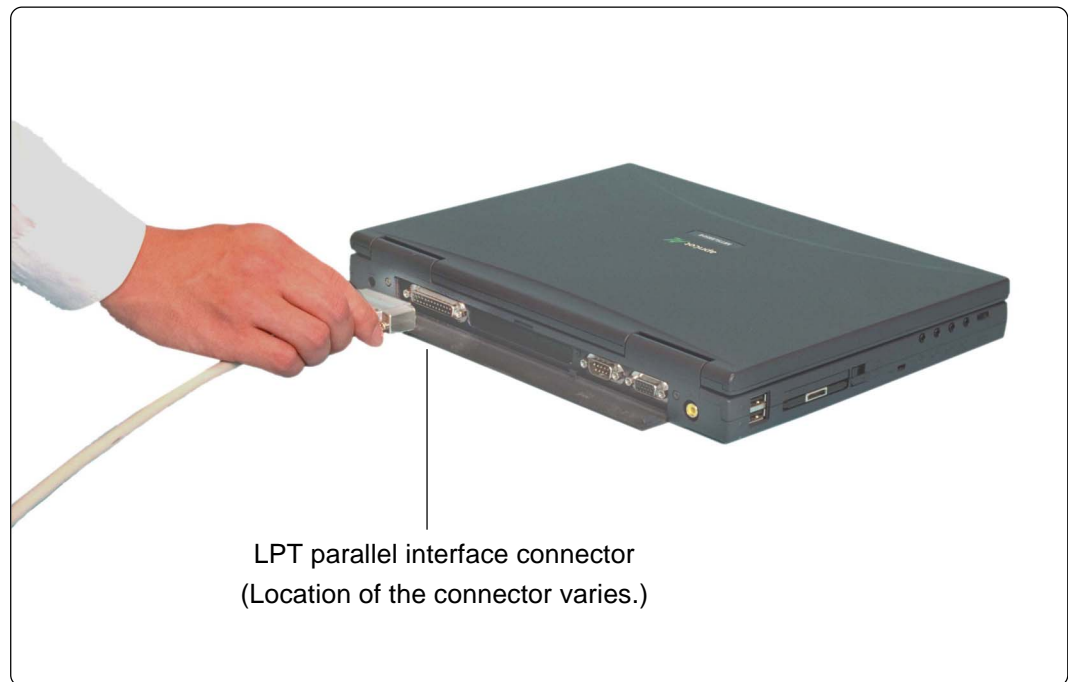

Figure 4.7 Connecting LPT parallel interface cable (host machine side)
▶ Figure 4.7 Connecting LPT parallel interface cable (host machine side) (P.35)